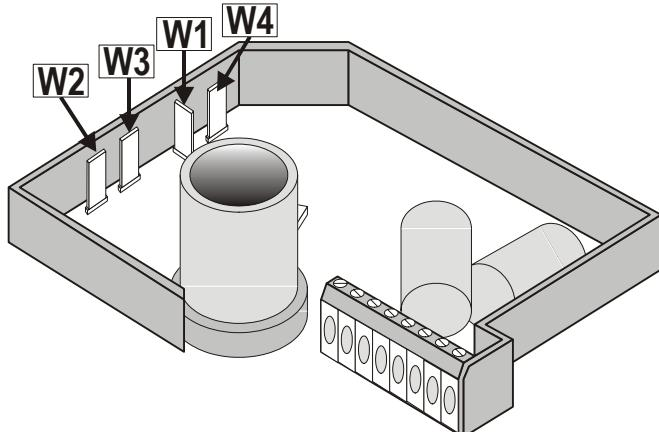

Fig. 1. Location of jumper plugs W1, W2, W3, W4
1) Factory setting: can be reversed by repositioning jumper plug (W3) located on the PCB (see Fig. 1 below).
The direction of action can be selected by changing the position of jumper plug W3 (Fig. 1.). The factory set is: stem extends at increasing signal (direct acting).
**NOTE:** Jumper plugs W1, W2, W3, and W4 are accessible after the cover has been removed. They are located on top side of the printed circuit board (see Fig. 1).
The Vdc- or mA-input signal is selected by shifting jumper plug W4 (see Fig. 1). The factory setting of W4 is "Vdc". No external resistor for mA-input signal is necessary.
The range of the analog input signal Y (0...10 Vdc / 0...20 mA or 2...10 Vdc / 4...20 mA) can be selected by changing the position of jumper plug W2 (Fig. 1.). The factory setting is 0...10 Vdc.